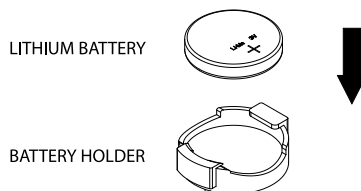

Figure 3-4. Installing the Onboard Battery
- **IPMI > Server Health > NVMe SSD** – Shows the temperatures of all NVMe drives, as in Figure 3-4.